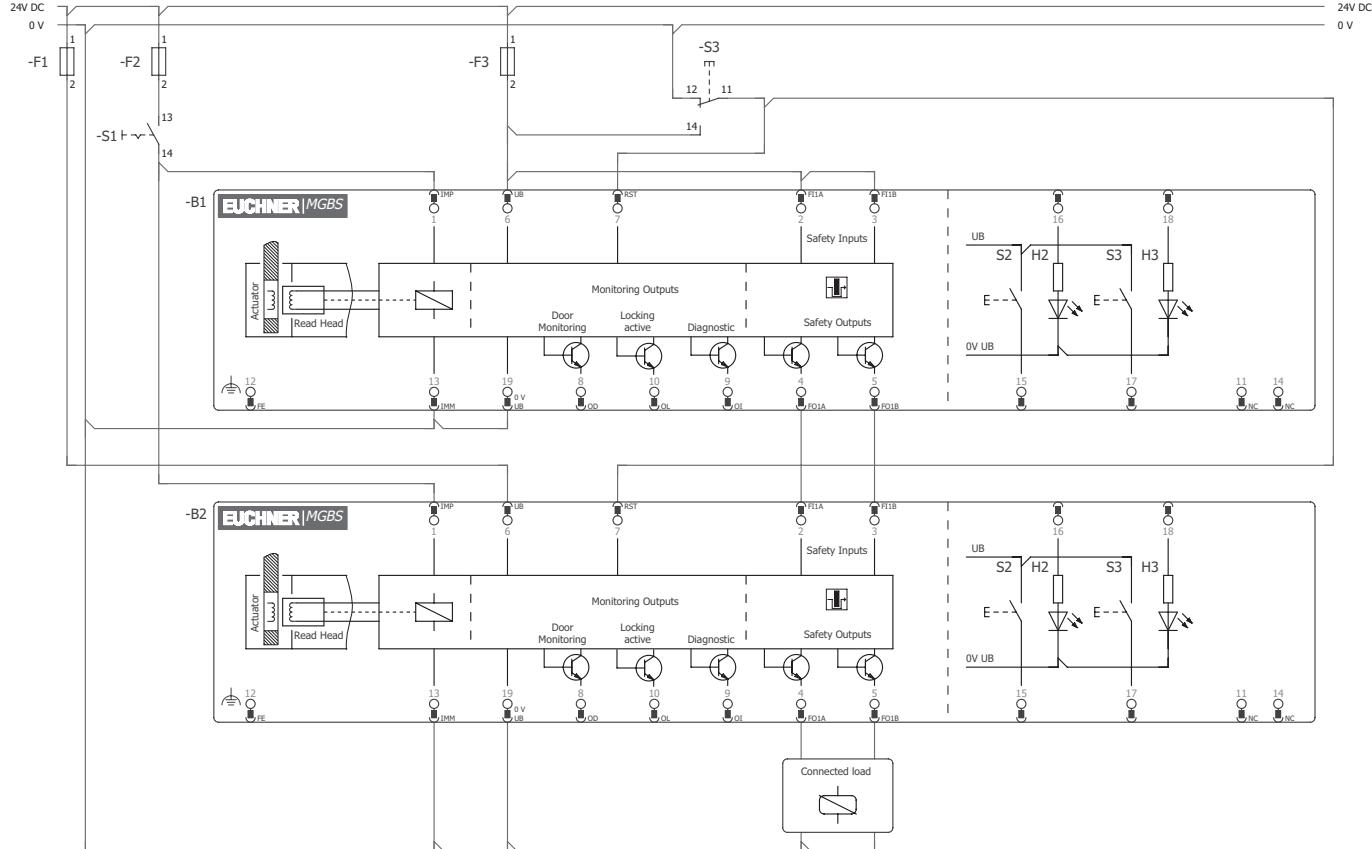

Figure 6: Connection example for one switch chain; version with plug connector M23
- › A common signal must be used for all locking modules in the chain. This can be a changeover switch or the output of a control system. A pushbutton is not suitable because the reset must always be connected to GND during operation (see switch S3 in *Figure 6 on page 31*).
Input RST must be connected as shown in *Figure 6 on page 31* to permit this.